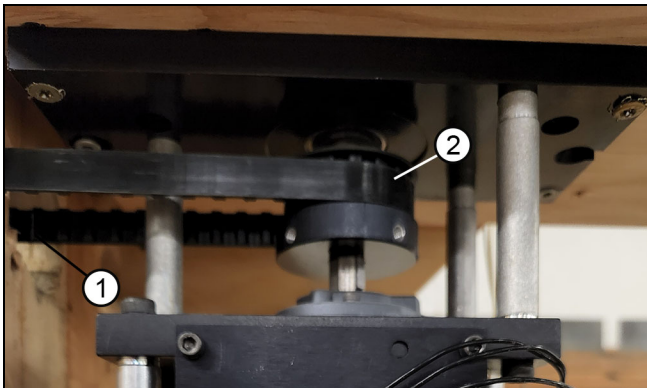

Figure 34
5. Thread the belt through the pass through corner key and around motor drive sprocket. Continue to thread the belt back over the panel tooth side up. See Figure 34